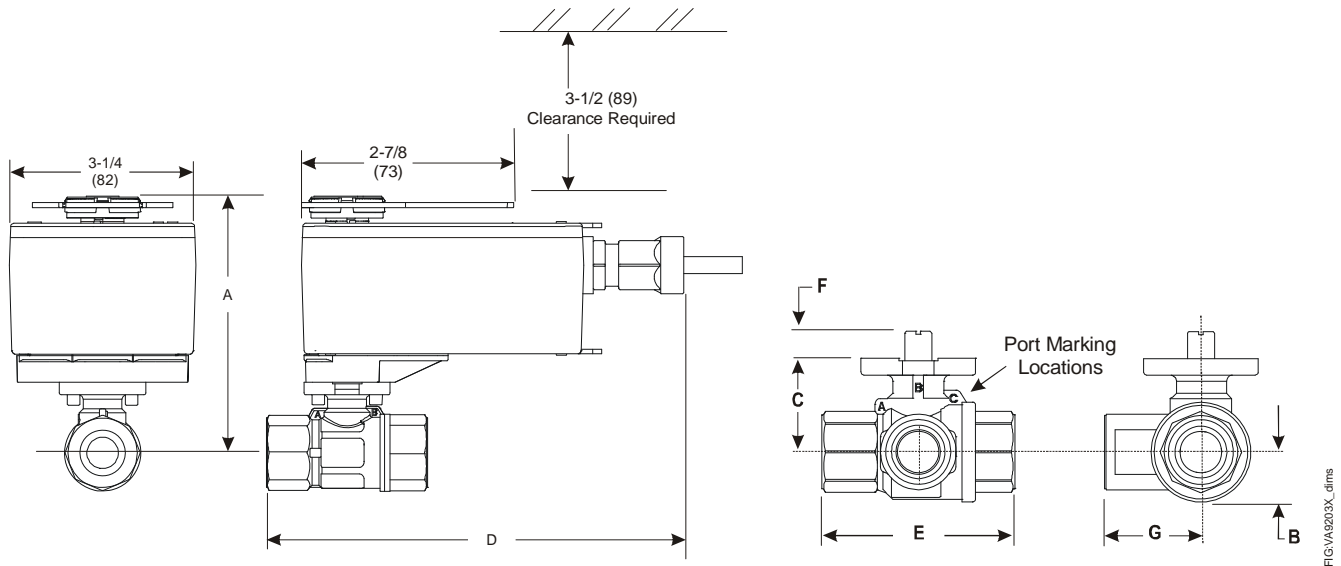

Figure 3: Field Installed M9203 Series Electric Actuator Dimensions, in. (mm)
See Figure 3 and Table 1 and Table 2 for dimensions of the Spring Return M9203 Series Actuated Ball Valves.
1. Port A must always be connected to the coil (Figure 3).